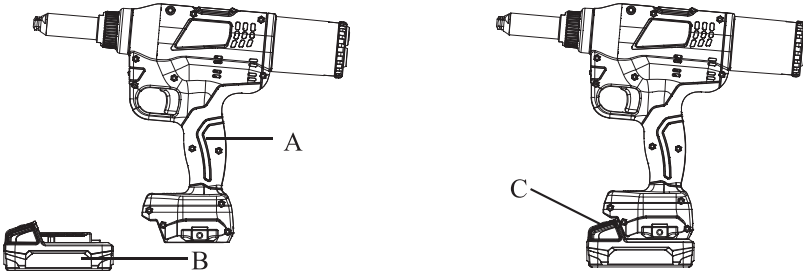

Fig. 4
TO REMOVE BATTERY PACK: Depress the battery release button (C) and pull battery pack (B) out of tool (A). (see Fig. 4)
TO INSTALL BATTERY PACK: Push battery pack (B) onto tool until it locks in place. (see Fig. 4)